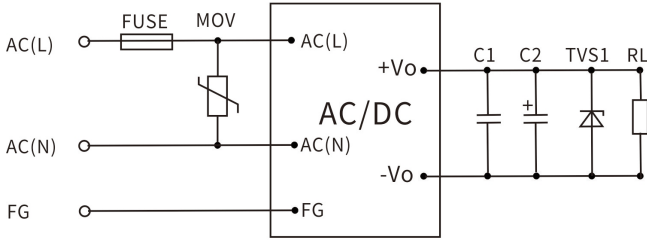
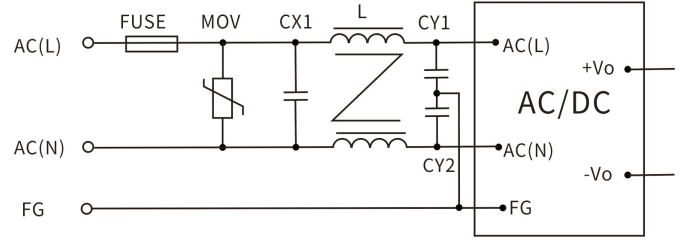

图1
图4
- For general application requirements, customers should use the circuits recommended in Figures 1, 2, and 3. If higher EMC requirements are needed, please use the circuit recommended in Figure 4. The specific recommended values for Figure 4 are as follows: